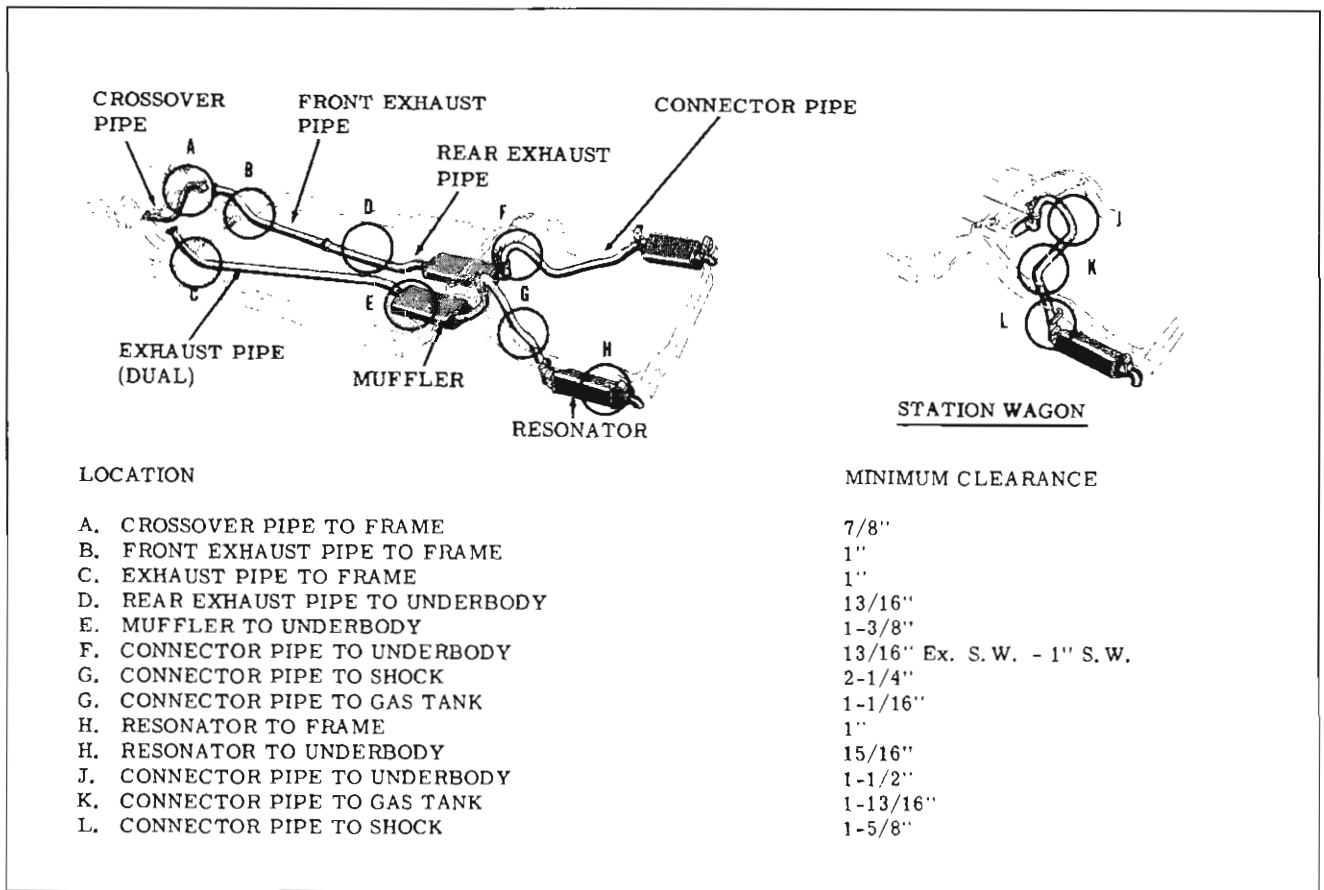

Fig. 3-65 Clearance Specifications for Exhaust System Parts
2. Before tightening any part of the exhaust system, align the exhaust system pipes to provide adequate clearance between the body and frame. (Fig. 3-65)